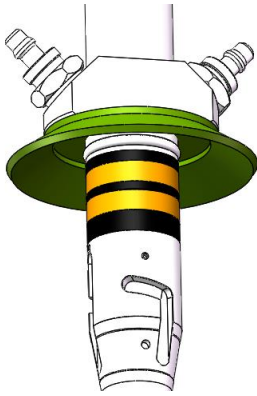

Figure 3 Protective cap and head of optical fiber
2. As shown in Figure 3, please align the center hole of the protective cap to the optical fibre splice and put it on the optical fibre splice. Notice that all the sealing rings on the fiber head are exposed below the protective cap.